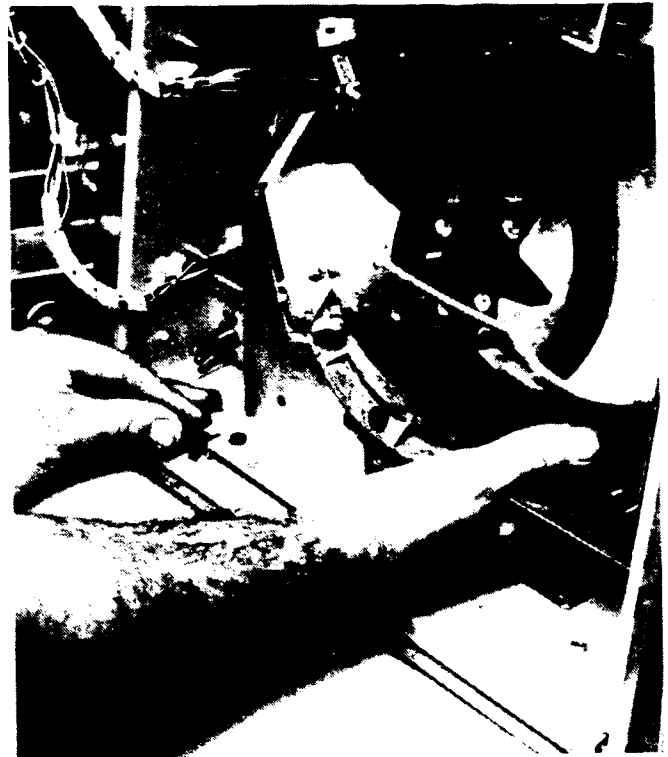

Figure 4-8
- 1) Release the hopper lock, which is located at the base of the hopper. See Figure 4-8.